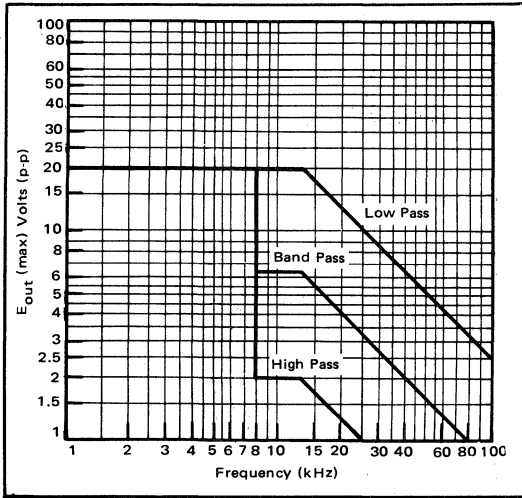
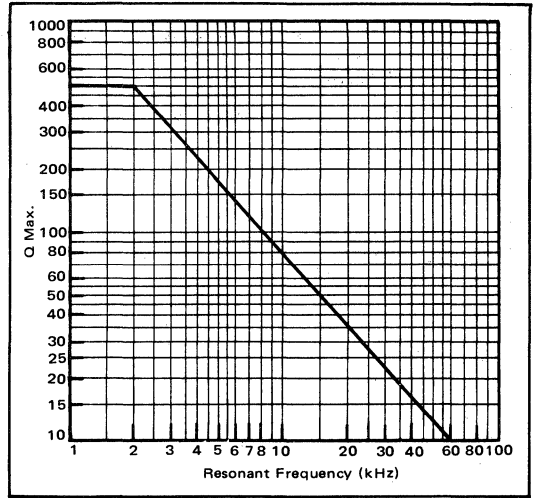

FIGURE 2. Full Power Response
FIGURE 3. Q Max. vs. Resonant Frequency
- (1) The tolerance of external frequency determining resistors must be added to this figure.
- (2) T.C.R. of external frequency determining resistors must be added to this figure.
- (3) See figure 3 for Q vs. F curve.
- (4) Q stability varies with both the value of Q and the resonant frequency f_o .
- (5) See figure 2 for full power response curve.
- (6) Measured at the band pass output with Q @ 50 over DC to 50 kHz.
- (7) The current required to drive R_{F1} and C_1 and C_2 must come from this current.
- (8) For supplies below ±10 V, Q max will decrease slightly; filters will operate below ±5 V.